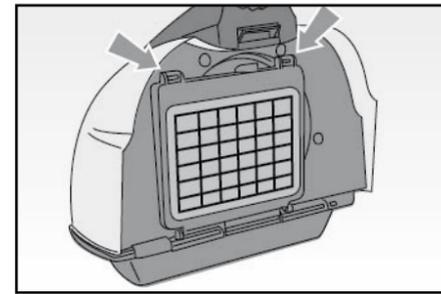

Fig. 7
- Use the two levers at the back to open the relevant hatch (Fig. 7).